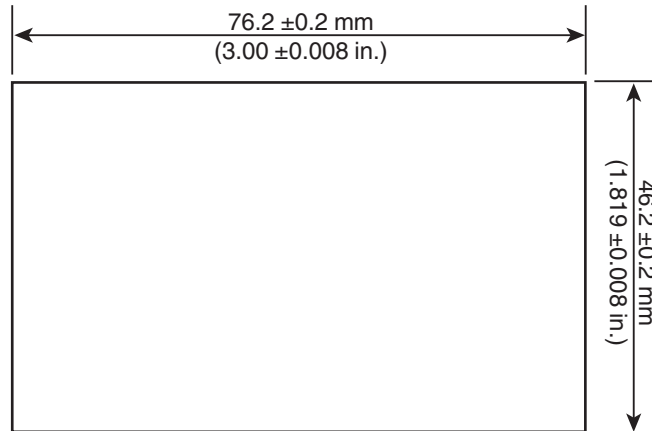

Figure 2-12 Cutout dimensions for panel mounting
2. Using an appropriate tool for the enclosure material, cut a  $46.2 \times 76.2 \pm 0.2$  mm hole in the enclosure (see Figure 2-12). Remove any burrs or sharp edges using a file or appropriate tool.